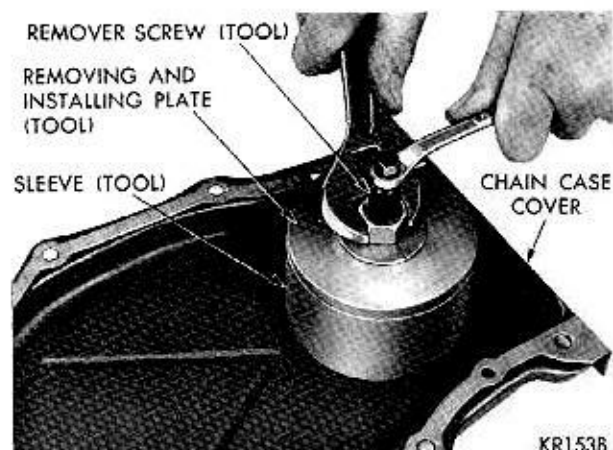
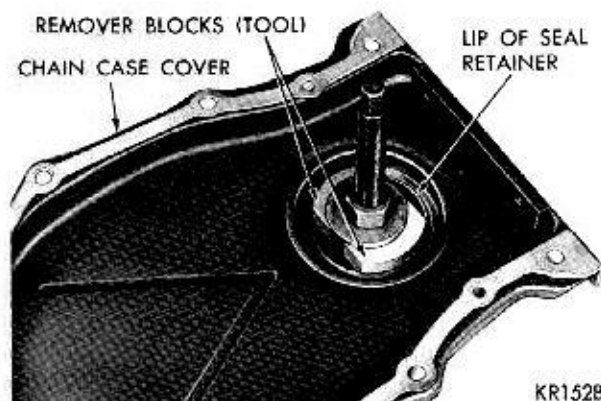
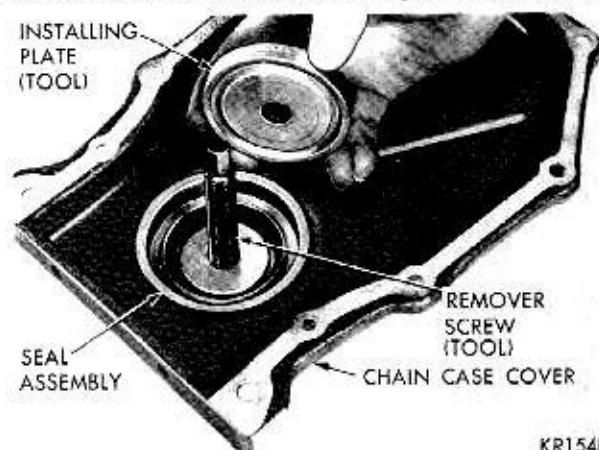

Fig. 20—Removing Oil Seal
Fig. 19—Remover Blocks Expanded to Puller Position
Fig. 21—Positioning Installer Plate
(2) Place washer and nut on remover screw. Tighten nut, forcing the blocks into the gap to a point of distorting the seal retainer lip (Fig. 19). This is important, **remover is only positioned at this point.**
(3) Place sleeve over retainer and place removing and installing plate into the sleeve.
(4) Place flat washer and nut on the remover screw. Hold center screw and tighten remover nut to remove the seal (Fig. 20).
(5) Insert remover screw through the removing and installing plate so thin shoulder will be facing up.
(6) Insert remover screw with the plate through seal opening (inside of chain case cover facing up).
(7) Place seal in cover opening, with neoprene down. Place seal installing plate into the new seal, with protective recess toward lip of seal retainer (Fig. 21). **The lip of the neoprene seal must be toward source of oil.**